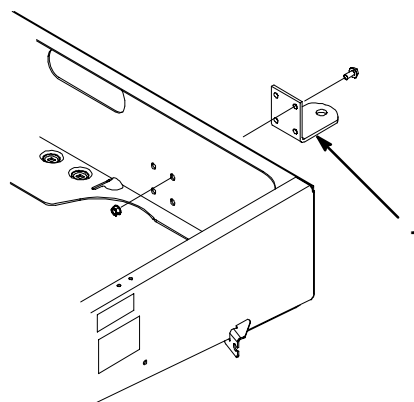

Figure 7
- Remove the (4) screws and nuts from the inside rear of the frame.
- Align the hitch with the mounting holes on the frame. Secure the hitch with the screws and nuts (Fig. 7).